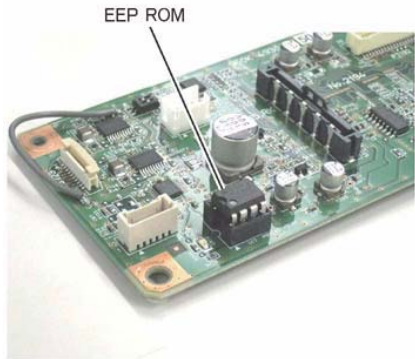

Figure 4 EEPROM
2. When the PWB is replaced, remove the EEPROM from the old PWB and install it onto the new one. (Figure 4). Reload software GP 7.